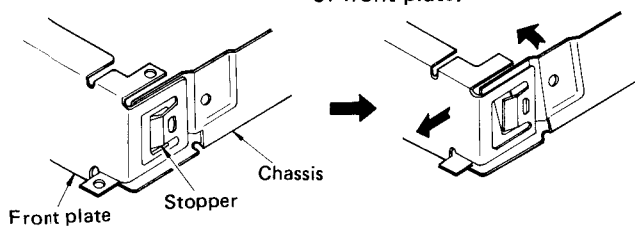
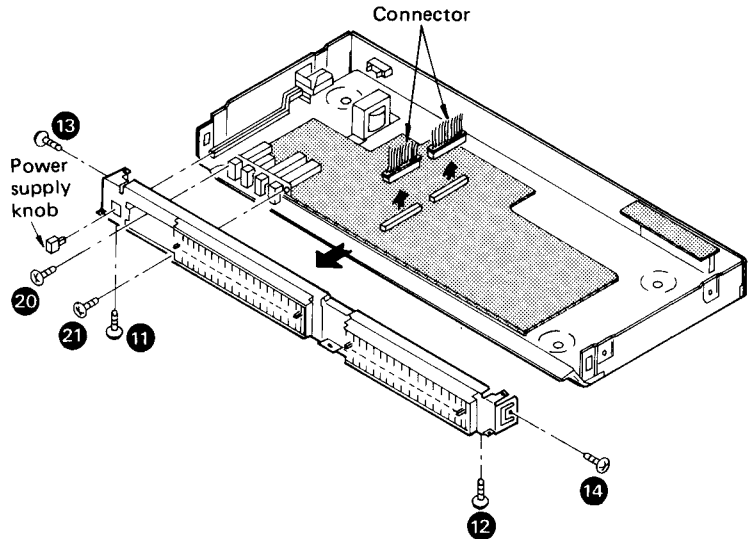

Fig. 3
Fig. 4
4. Remove the front plate from the chassis as in Fig. 3.
2. Remove the power supply knob and 4 setscrews (Fig. 4 : ⑪ ~ ⑭) of the front plate.
4. Remove the 2 setscrews (Fig. 4 : ⑳, ㉑) of the switch and remove the front plate from the chassis as in Fig. 3.